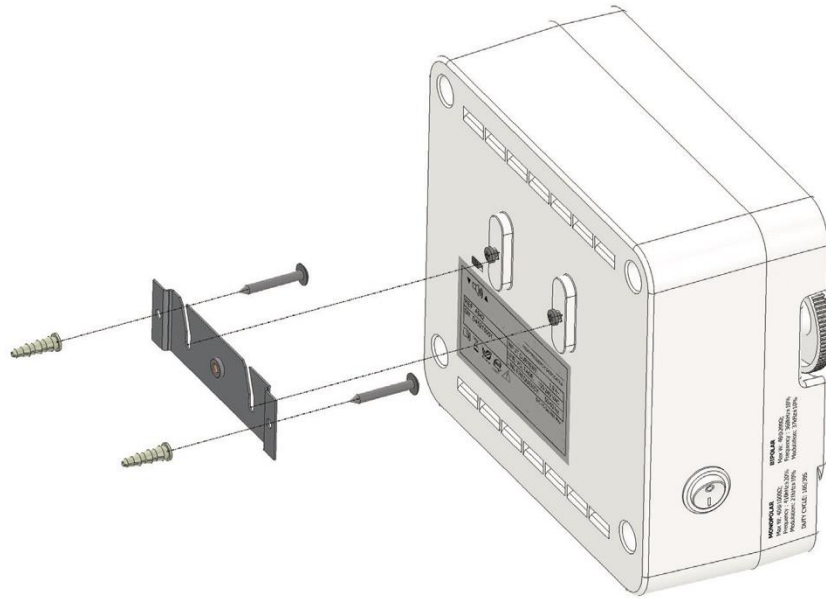

Figure 1
1. Mount the Bovie® DERM 942-V on the wall or optional mobile stand using the standard mounting kit (see figure 1). Do not operate the unit in the horizontal position, as liquids may spill into unit.